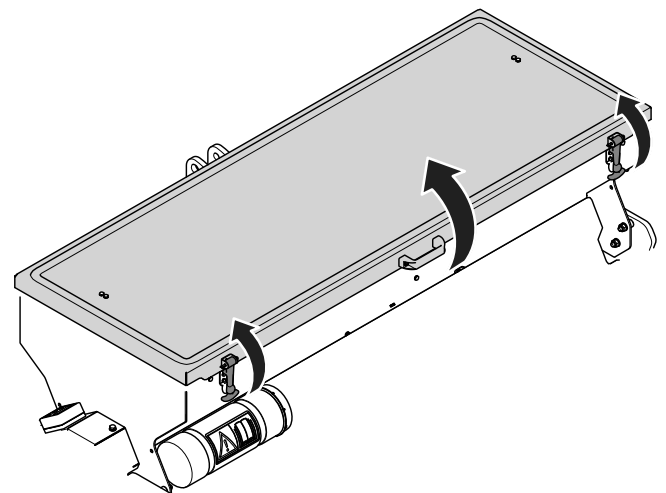

Figure 8
- To open the seed cover, release the rubber latches and use the lid handle to raise the cover (Figure 8).